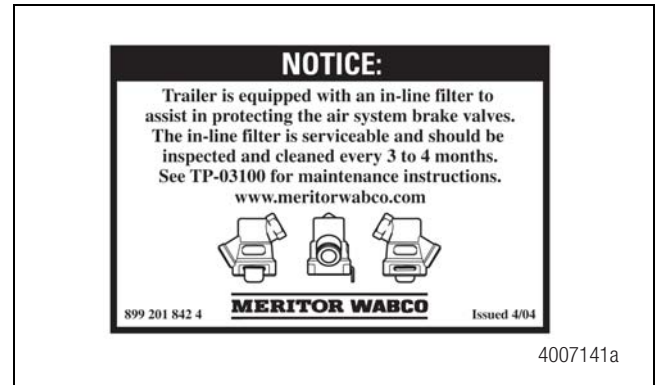

Figure 6.21
3. Affix the in-line filter label (part number 899 201 842 4) to the front of the trailer near the control (blue) gladhand. Figure 6.21.